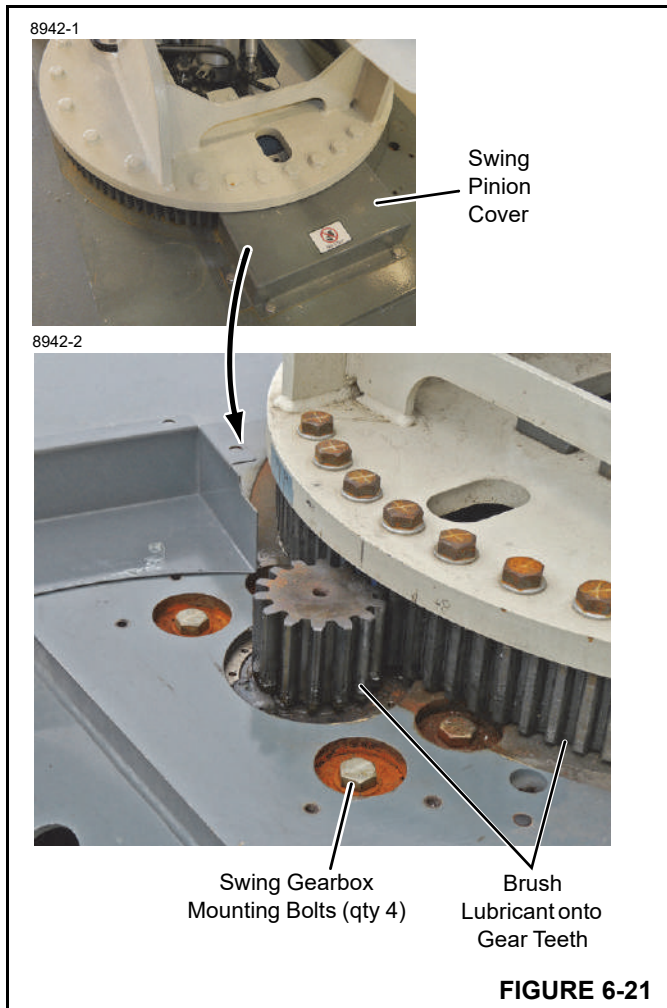

FIGURE 6-21
3. Using a brush, apply open gear lube to the pinion and swing gear teeth (Figure 6-21).
Torque the 3/4 in swing gearbox mounting bolts (Figure 6-21) to 202±5 lb-ft. If the bolts are loose, check gear backlash.